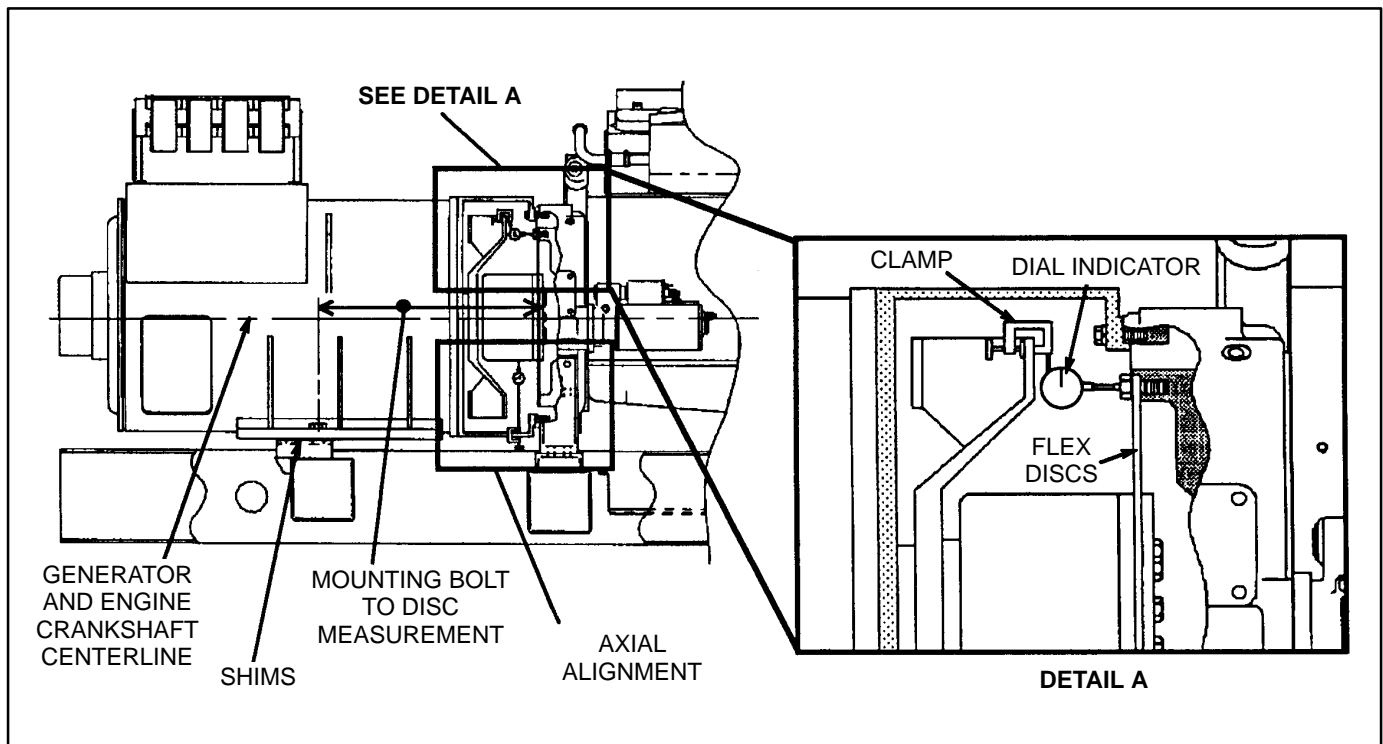

FIGURE 3-4. ANGULAR ALIGNMENT MEASUREMENT
Fasten a dial indicator to either the generator shaft or the cooling fan with the sensing point resting on the capscrew head or the flat surface of the drive disc at the bolt circle diameter, see Figure 3-4. Bar the engine over in a clockwise rotation as viewed from engine flywheel. Do not allow it to roll back on compression at the end of the travel of each reading. It is unnecessary to zero the indicator since the total indicator reading (T.I.R.) of the deflection measurement to the bolt heads is what is required. T.I.R. will be the sum of the maximum positive and negative dial indicator readings as the engine completes one revolution.
2. Measure the distance from the generator side of the flex discs to the center of the generator mounting bolt, refer to Figure 3-4. (For example; a HC6 Frame's distance is 28.4".)